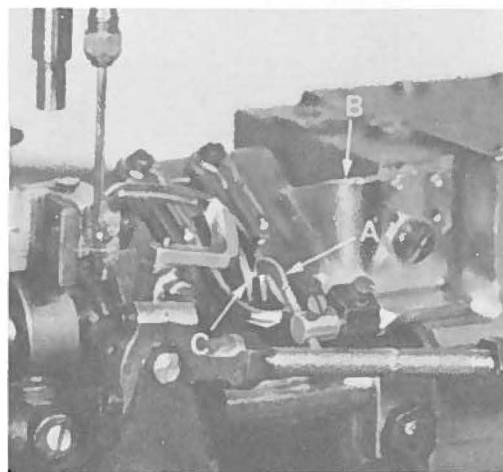

Fig. 13
Looper thread cast-off wire (A, Fig. 13) located on the take-up shield (B) controls the amount of slack thread in the system and can be moved to any position. It should be set laterally so that it is midway between the two discs of take-up (C) and the tip parallel with the discs.